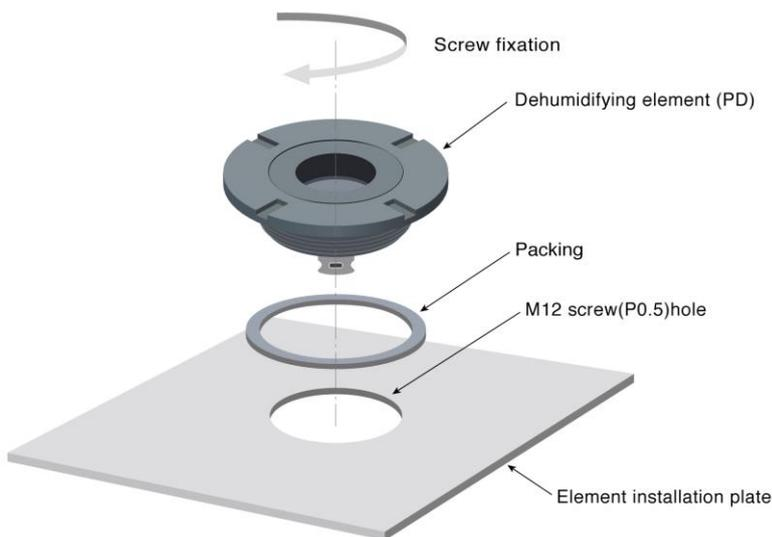

Fig.1 Image for installation
- 3 Make a screw hole on the container which you will install the dehumidifying element. (Refer to the Fig.1~3)
- *5 Refer to the Figure 1~3.